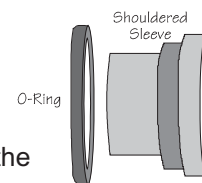

figure 1
1. Shouldered sleeves with O-rings should already be installed in the shock eye. If not, insert sleeves with O-rings in both top and bottom eyes (see figure 1). Note: The widest sleeves go in the bottom eye.